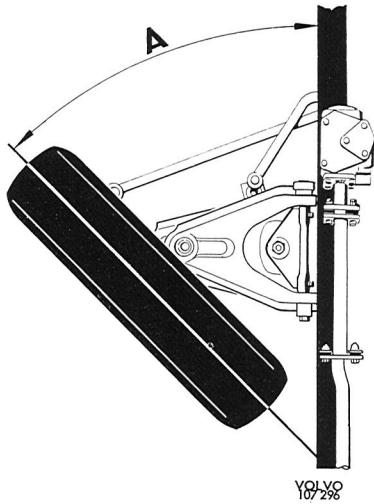

Fig. 6-11. Adjusting max. wheel lock
1. Turn the left wheel for a left hand turn as far as it goes. Check the wheel lock according to Fig. 6-11. If the lock is not as in this figure, then adjust to this angle with the adjusting screw (Fig. 6-12).